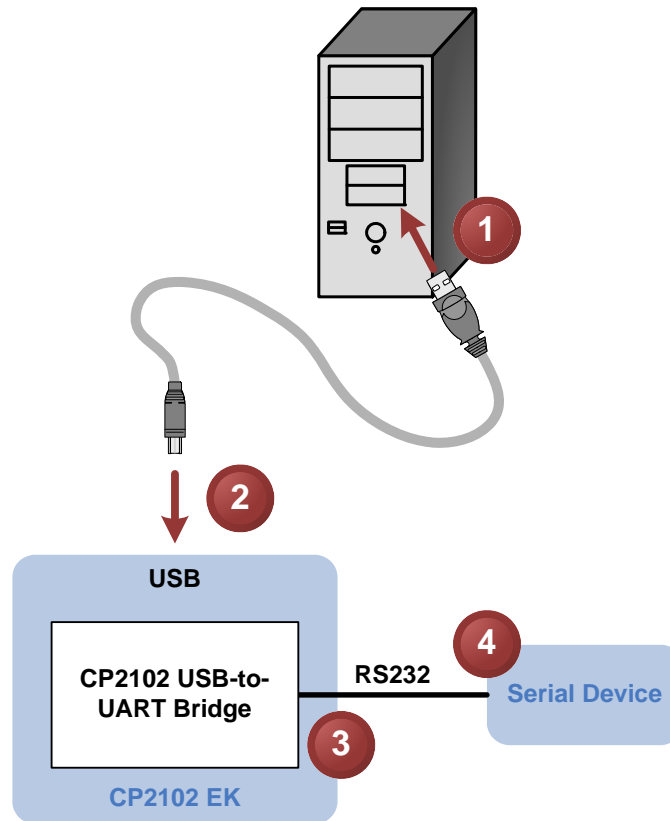
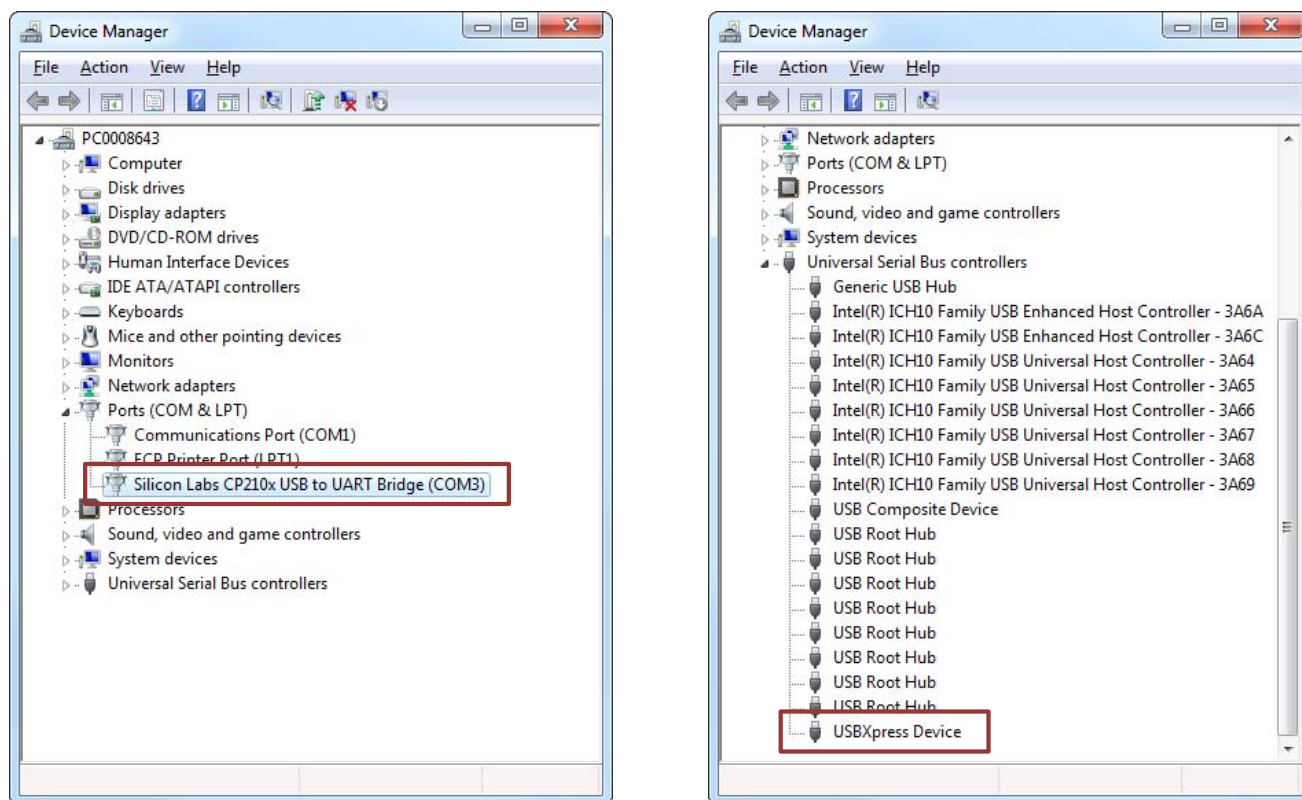

Figure 1. Hardware Setup
Figure 2. CP2102 in Device Manager
The evaluation board is connected to a PC as shown in Figure 1.
If the Virtual COM Port drivers are used, the CP2102 will appear as a COM port in the Device Manager, as shown in Figure 2. The CP2102 will always use the lowest available COM port for operation. For instance, if COM ports 1 and 2 are in use by other peripherals and applications, the CP2102 will use COM 3.
If the USBXpress drivers are used, the CP2102 will appear as a USB USBXpress device as shown in Figure 2. Examples for how to communicate with the device using the USBXpress interface are included in AN169 on the www.silabs.com/interface-appnotes page.
- Updated Figure 1 and Figure 2.